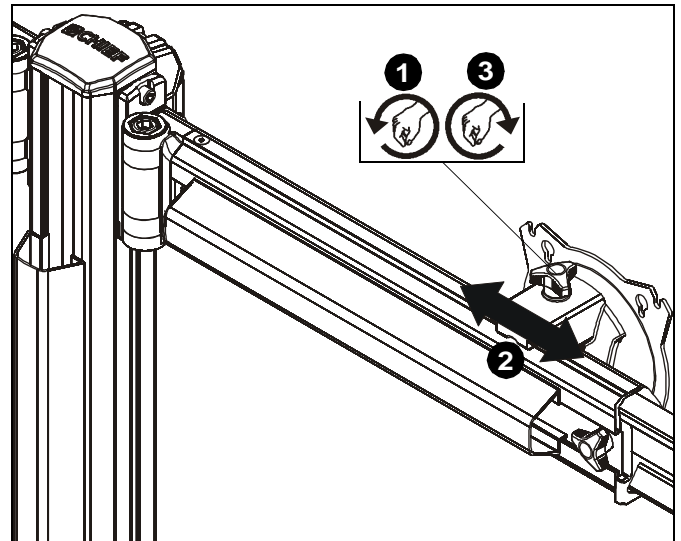

Figure 21
1. Loosen knob on top of outside faceplate assembly until faceplate can slide freely along array arm. (See Figure 21)
2. Adjust lateral position as desired. (See Figure 21)
3. Tighten knob to secure lateral position. (See Figure 21)